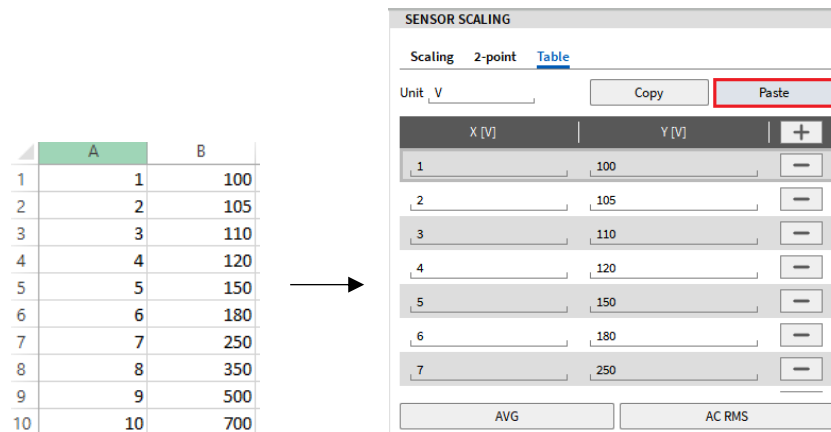

Figure 5-17: Table scaling – copy and paste table from Excel into OXYGEN
- A table can also be copied from another source, e.g. Excel and pasted with **CTRL+V** or the *Paste* button into the table scaling menu. Likewise, the table can be copied using **CTRL+C** or the *Copy* button and pasted into e.g. Excel (see Figure 5-17).